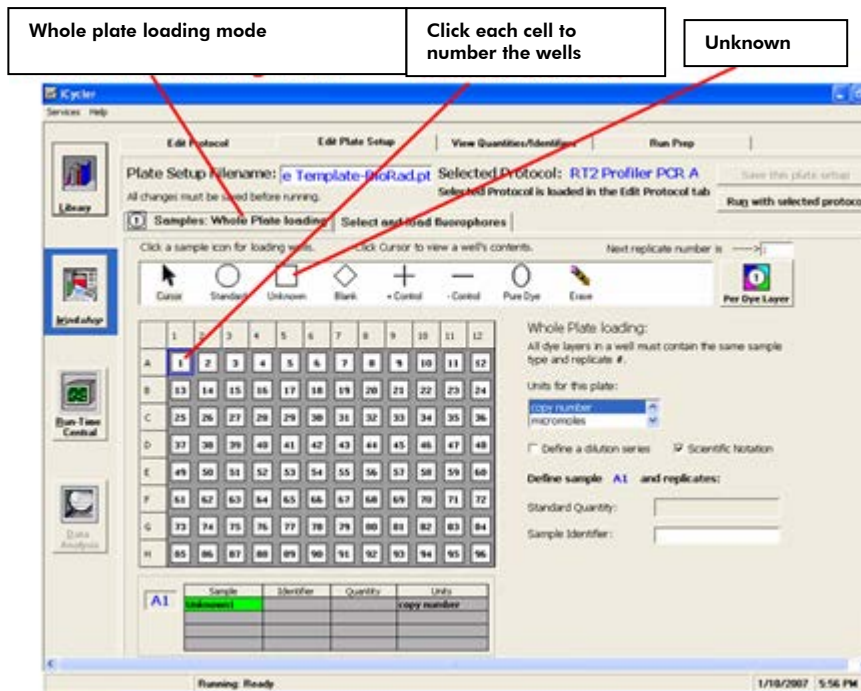

Figure 2. Plate setup — sample loading.
3. To set up a template file for “Plate Setup,” click on the “Library” module on the left panel and then select the “View Plate Setup” tab; click “Create a New Plate Setup” on the right. This will open the “Edit Plate Setup” tab in the “Workshop” module. Choose the “Whole Plate” mode. In the “Samples: Whole Plate Loading” tab (see Figure 2), click to select the icon for “Unknown.” In the diagram of the 96-well plate, click on each well one at a time to designate the sample type as “Unknown” and number the well.